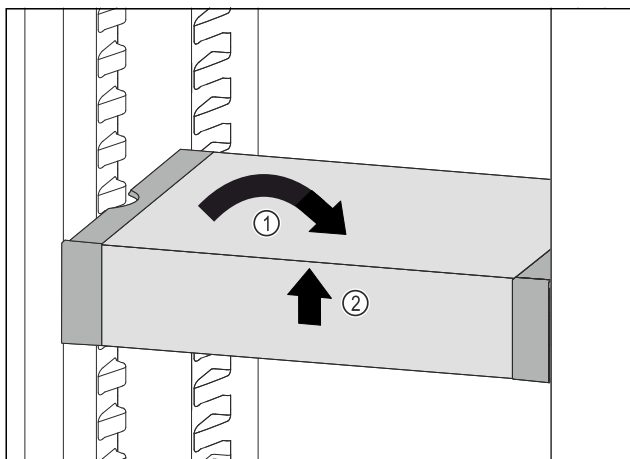

Fig. 115
- Set VarioSafe straight. *Fig. 115 (1)*
- Lift VarioSafe at the front. *Fig. 115 (2)*